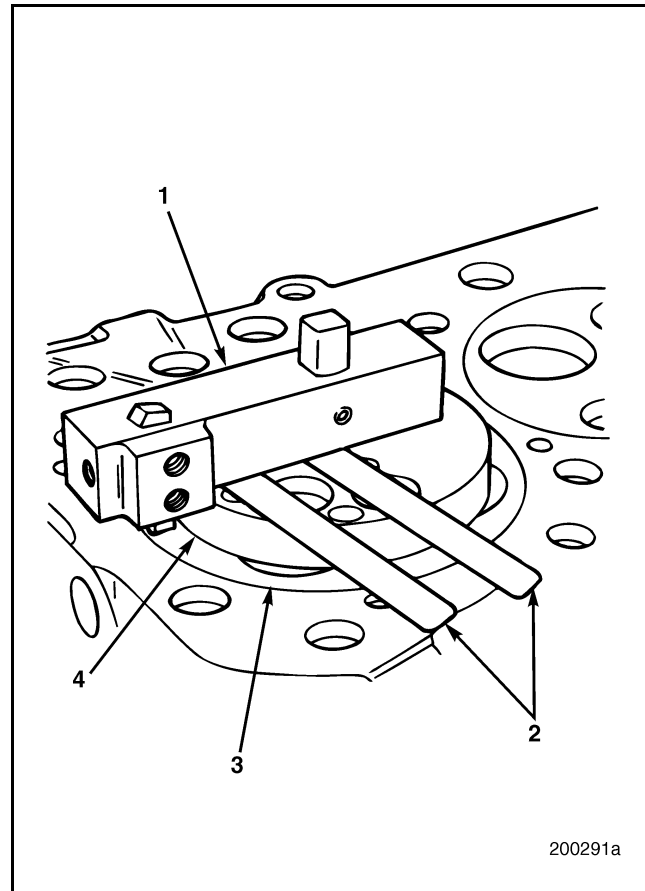

Figure 253 — Cutter Depth Setting
4. Install the cutter head J 37719 on the cutter base as shown in Figure 253.